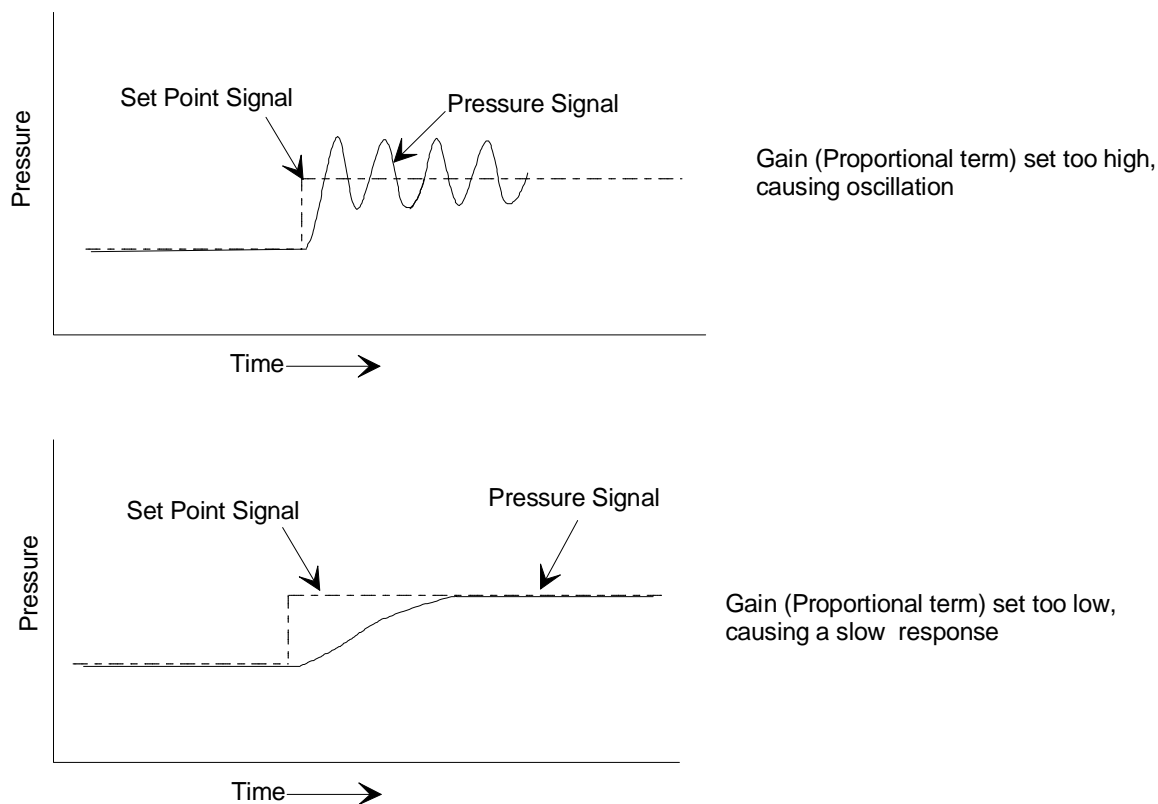

Figure 15: Effects of the Proportional Control
The Proportional (P), or gain, term is used as a constant to create a valve drive signal that is proportional to the error signal. The error signal is multiplied by the proportional control setting, thus creating a proportional valve drive signal. The higher the proportional control, the greater the change in valve drive signal. Typically, a higher proportional control setting yields a faster response. However, too high a proportional control setting will cause the pressure to oscillate around the set point. Too low a proportional control setting will result in a slow response from the controller. Figure 15 shows the effects of the Proportional term.